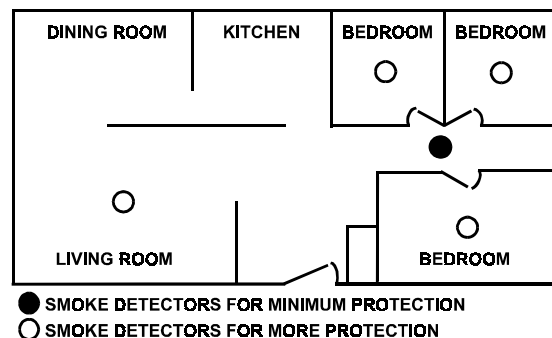
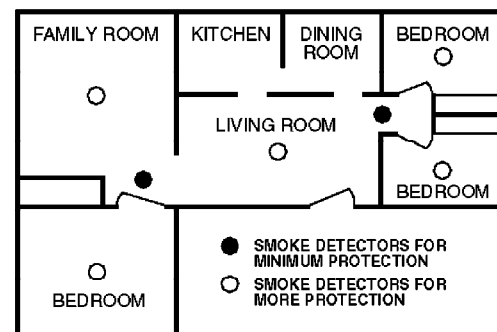

Figure 1: Recommended Smoke Detector for Single-Floor Residence with Only One Sleeping Area.
Figure 2: Recommended Smoke Detector Protection for Single-Floor Residence with More than One Sleeping Area.
- Put a smoke detector in the hallway outside of every separate bedroom area (Fig. 1). Two detectors are required in homes with two bedroom areas (Fig. 2).